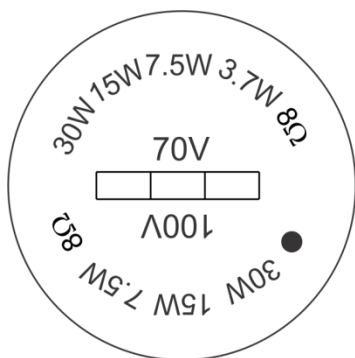

Figure 4: Adjust Tap Selector
4. Adjust appropriate tap setting (see Figure 4).